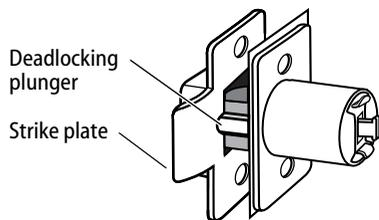

Figure 9b Aligning the deadlocking plunger with the strike plate
**Caution:** The deadlocking plunger of the latchbolt must make contact with the strike plate, as shown in Figure 9b. The plunger deadlocks the latchbolt and prevents someone from forcing the latch open when the door is closed.